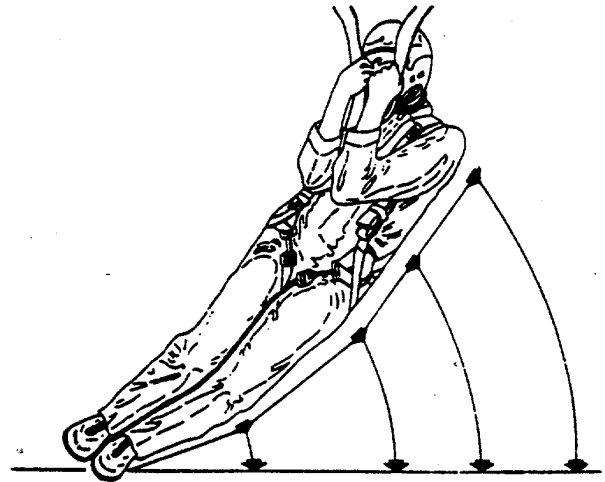

Figure 2-18. Performing a Parachute Landing Fall.
(3) Position the head erect and focus the eyes on the horizon.
b. Parachute Landing Fall. When executing parachute landing fall (fig. 2-18) there are five points of contact which should be made in sequence: the balls of the feet, the calf of the leg, the thigh, the buttocks, and the back part of the shoulder. Perform a parachute landing fall as follows:
(2) Upon starting the parachute landing fall, pull the risers down in front of the face with both elbows placed together and touching the midsection of the body (fig. 2-18).